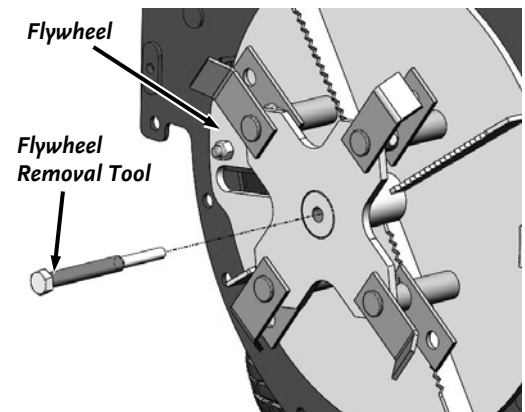

Figure 31
6. Repeat steps 2 through 4 for the other three sets of Hammers. Confirm that two of the J Hammers are facing out and the opposite two are facing in (**Figure 31**). Correct them if needed.
A Flywheel removal tool (part number 36522) is available through DR Power Equipment to allow easy removal of the flywheel (**Figure 31**). Please visit us at [www.DRpower.com](http://www.DRpower.com) to order the tool.